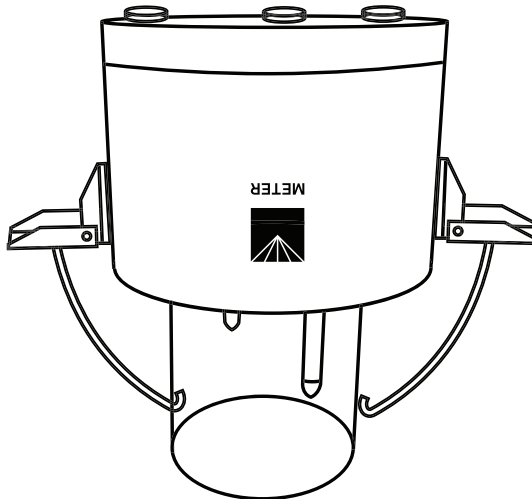

Figure 45 Storing refilled HYPROP
- Turn the assembled HYPROP upside-down and place it in a beaker filled with distilled water. Be sure that both ceramic tips are dipped in the water (Figure 45).